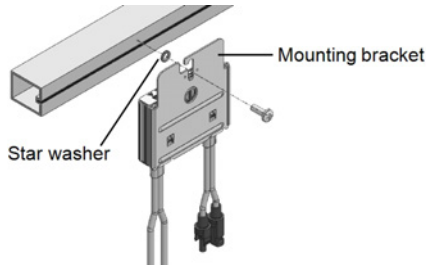

Figure 6: Power optimizer installation and grounding using a star washer
1. Determine the power optimizer mounting location and use the power optimizer mounting brackets to attach the power optimizer to the support structure (See *Figure 6*). It is recommended to mount the power optimizer in a location protected from direct sunlight. For frame-mounted power optimizers follow the instructions supplied with the optimizers, or refer to https://www.solaredge.com/sites/default/files/installing_frame_mounted_power_optimizers.pdf.
- For mounting on a grounded metal rail:** Use the provided 5/16" stainless steel grounding star washer between the railing and the flat side of the mounting bracket. The grounding washer should break through the anodize coating of the railing to ensure low resistive connection. Apply torque of 9.5 N*m / 7 lb*ft. See Figure 6.